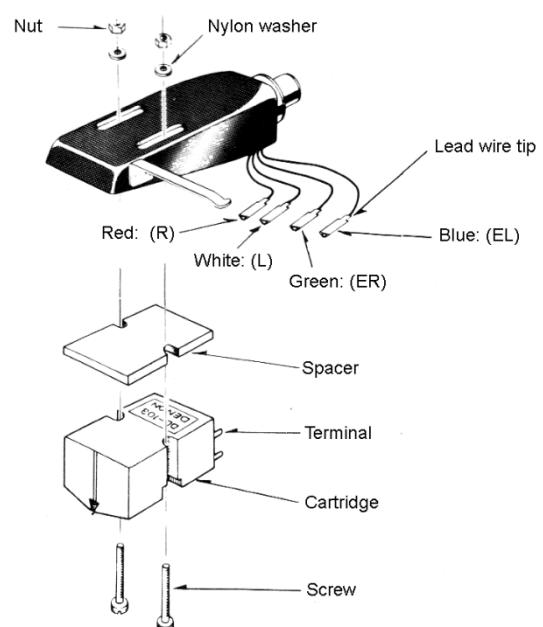

Fig. 3 Mounting the cartridge in the head shell
When mounting a cartridge on this record player, follow the instruction manual of the cartridge to be used as well as referring to Fig. 3 and following instruction.
- (1) Be sure to make correct connections. Follow the color coding on the lead wires (Fig. 3).